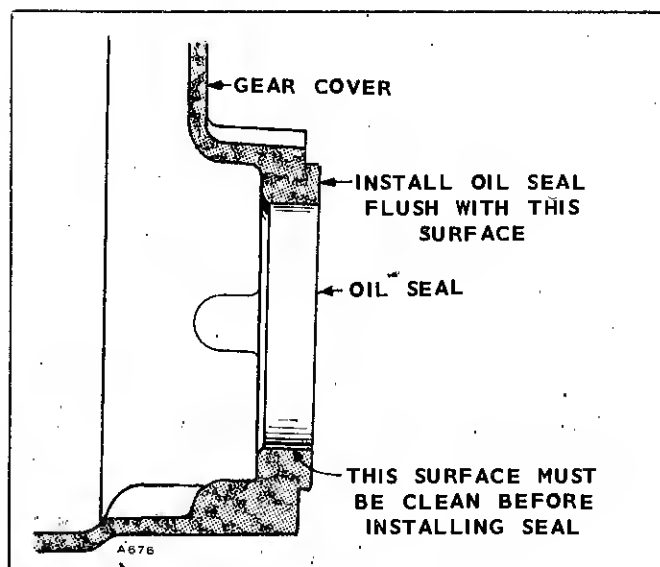

FIGURE 67. GEAR COVER OIL SEAL
**Gear Cover Oil Seal:** Replace the oil seal if damaged or worn. Drive the old seal out from inside the gear cover. Lay the cover on a board so the seal boss is supported. Using an oil seal driver, insert the new seal from the inside with rubber lip toward outside of gear cover (open side of seal inward) and drive it flush with the outside surface (Fig. 67). During gear cover installation, reverse the driver to protect the oil seal. Lubricate lips with heavy grease.